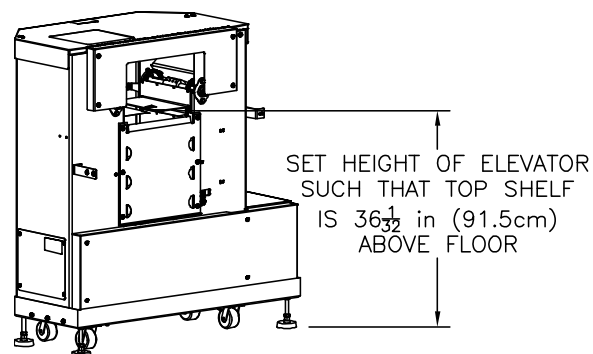

Figure 2-8. Elevator Height Setting
- Turn down the leveling pads and raise the elevator until the top shelf is 36-1/32" (91.5 cm) from the floor as shown in Figure 2-8.